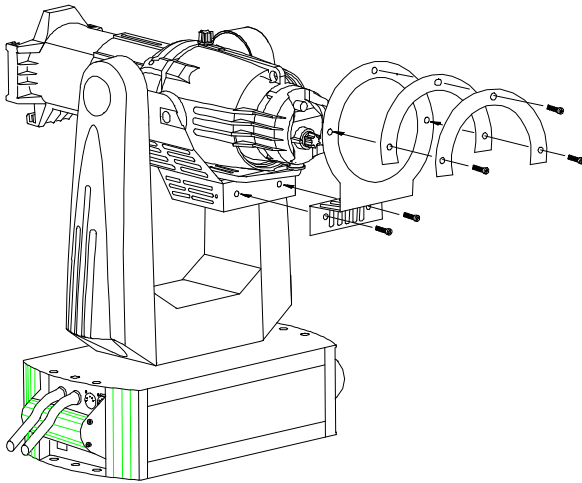

Figure 1. Adding Counterweights
2. Place the Counterweight Halo on the Autoyoke Cradle 1/4x20x3/4" socket head screws. *See Figure 1.*